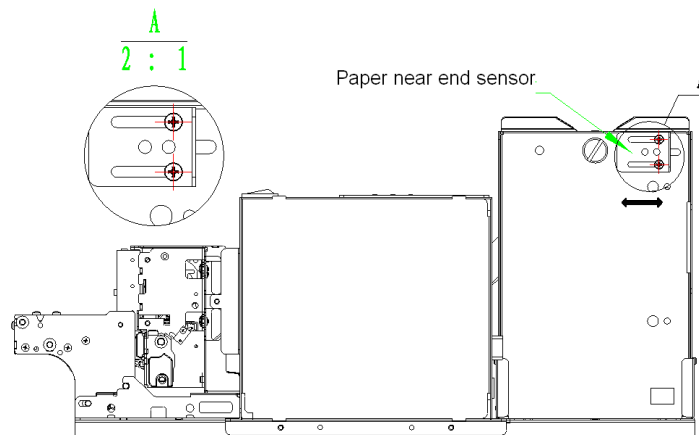

Fig. 4.2-4 Adjustment of paper near end sensor
- Turn and loose two M3 screws with a screwdriver shown as Fig.4.2-4;
- Adjust it with a hand according to your requirement (see Fig. 4.2-4 paper near end sensor adjustment);